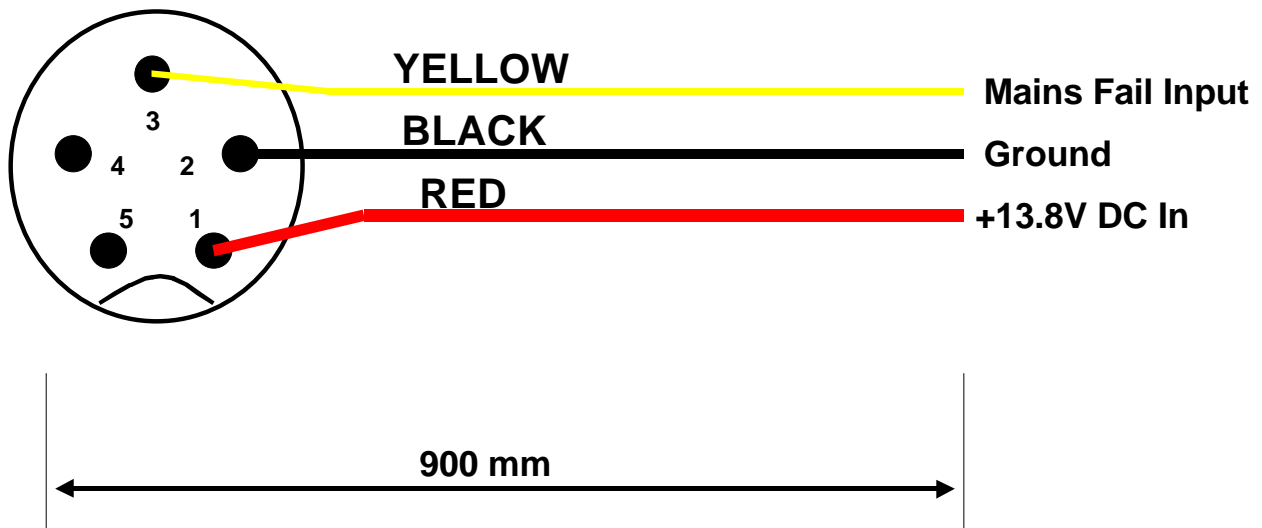

Figure 2.
- 4. Figure 2. shows the wiring of the power lead supplied with the A800-SIM. Connect the red wire to +13.8V DC supply and the black to the return ground. The yellow wire is the optional 'Mains Fail' input to the A800-SIM and can be connected to a standard T807/T808 power supplies 'Fail Alarm' output. For more information on 'Mains Fail, refer to the Section 6 Options.